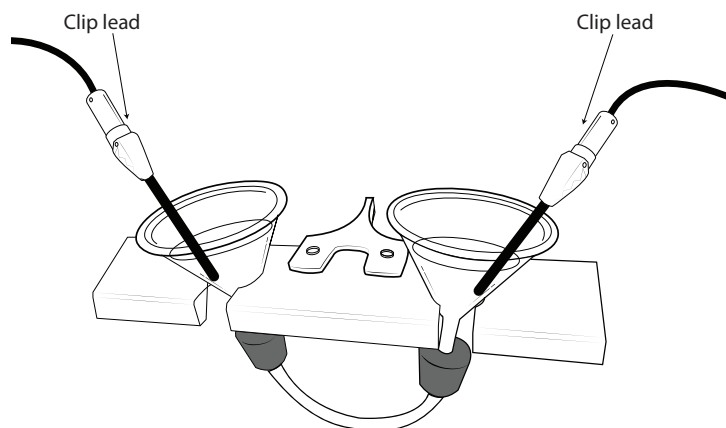

Figure 1. Funnel Apparatus with Electrodes
1. Check that your DC power supply is properly set up. Refer to Figure 1 on the next page for terminology and set up. If the clip leads are corroded or frayed, take them to the Dispensary to exchange for a new set.
Question A: How do you interpret the color changes in each funnel? Draw the diagram in Figure 1 and indicate what color changes occur and write balanced chemical reactions for the processes that cause the changes.
1. Referring to Figure 1 in the Lab manual, note any observations in your lab notebook.